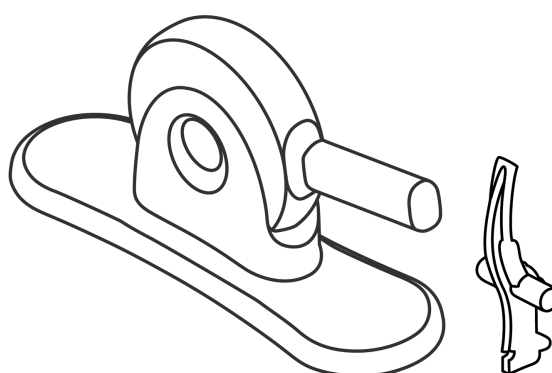

Figure 5: Edwards Crimper and 2-piece Crimp Stopper
• **Edwards Crimper and Crimp Stopper (Figure 5)**